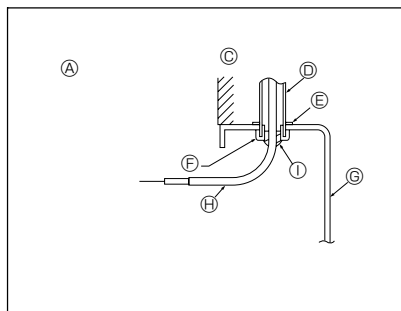

Fig. 4-2
- (2) Seal the service entrance for the remote controller cable with putty to prevent possible invasion of dew drops, water, cockroaches or insects. (Fig. 4-2)
[Fig. 4-2]